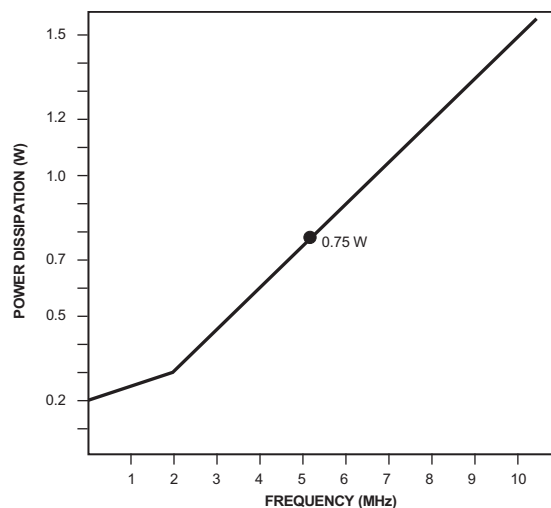

Figure 4. Power Dissipation Versus Switching Frequency
Pd versus Frequency	See Figure 4
3. When power is off, current limit input signals on pins 4, 5, 6, and 7 to 20mA. Failure to current limit can cause permanent damage to the device since, when powering up or down it is possible that two switches might be on at the same time. Excessive current (greater than 20mA) will flow from the more positive input to the more negative input, permanently damaging the device. Applications in which the power supply for the multiplexer also powers the signal sources may not require limiting resistors. See Figure 4.